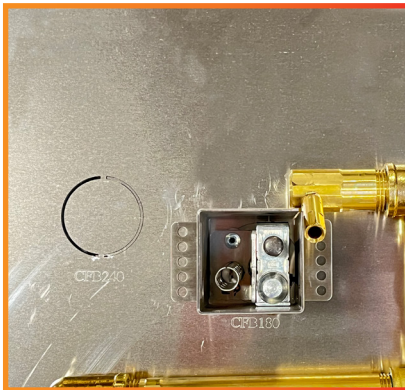

Figure 4a: Wind Cage Positioning
- 2.4 Rotate the pilot assembly in the knockout opening until the circular opening on the wind cage and thermopile are adjacent to the nearest jet with the thermopile nearest to the jet. Position the pilot assembly to cover the entire knockout opening. (See Figure 4a and 4b)